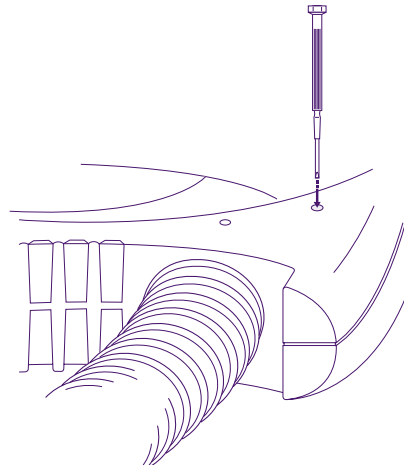

Figure 9. OT test button hole.
5. With a small screwdriver, press the OT test button (see Figure 9). Continuously depress for the duration of the over-temperature test.* When functioning properly, the “Over-Temp” indicator will illuminate, the OT value will be below 53°C, and the unit will switch off within 2 minutes. If this does not occur, return the unit to Arizant Healthcare Inc. for service.